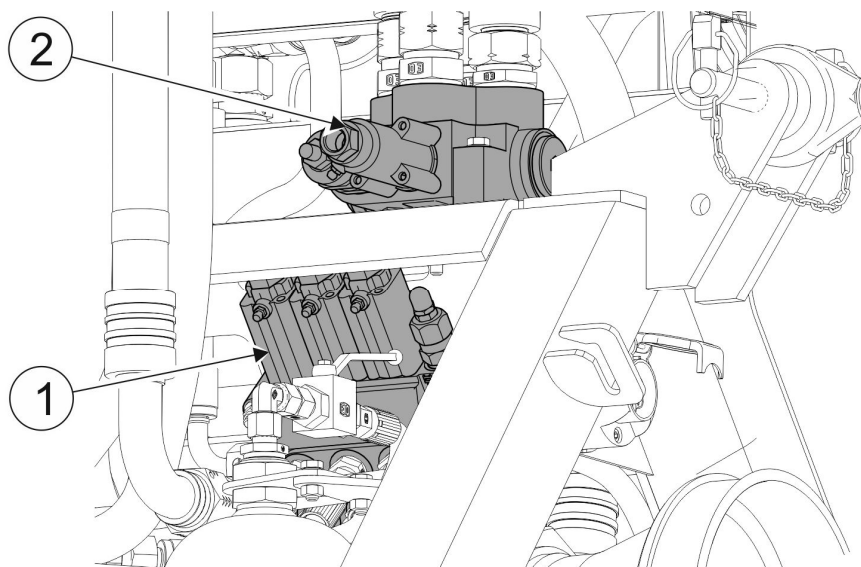

FIGURE 5.3 Hydraulic selective control valves (WWT420/WWT480) or electrohydraulic selective control valves (WWT424C/WWT484C).
(1)- hydraulic selective control valve (WWT420/WWT480) or electrohydraulic selective control valve (WWT424C/WWT484C) of cylinders of support system arms; (2)- hydraulic selective control valve (WWT420/WWT480) or electrohydraulic selective control valve (WWT424C/WWT484C) of the working head's hydraulic motor.
The hydraulic selective control valve or electrohydraulic selective control valve (1) (FIGURE 5.3) is used for controlling the three hydraulic cylinders of the support system. Single-section hydraulic or electrohydraulic selective control valve (2) is used for starting the working head's hydraulic motor. The selective control valves are controlled by means of mechanical control system (WWT420/WWT480) or electrically by means of control panel with joystick (WWT424C/WWT484C) in the tractor cab. Check the condition of seals of selective control valves daily and pump grease into all grease nipples located on individual sections of hydraulic selective control valves.
Additionally, lubricate the drive shaft (option) in line with the shaft's Operator Manual provided by the drive shaft manufacturer and pump grease into all grease nipples located on individual sections of hydraulic selective control valves (FIGURE 5.3).